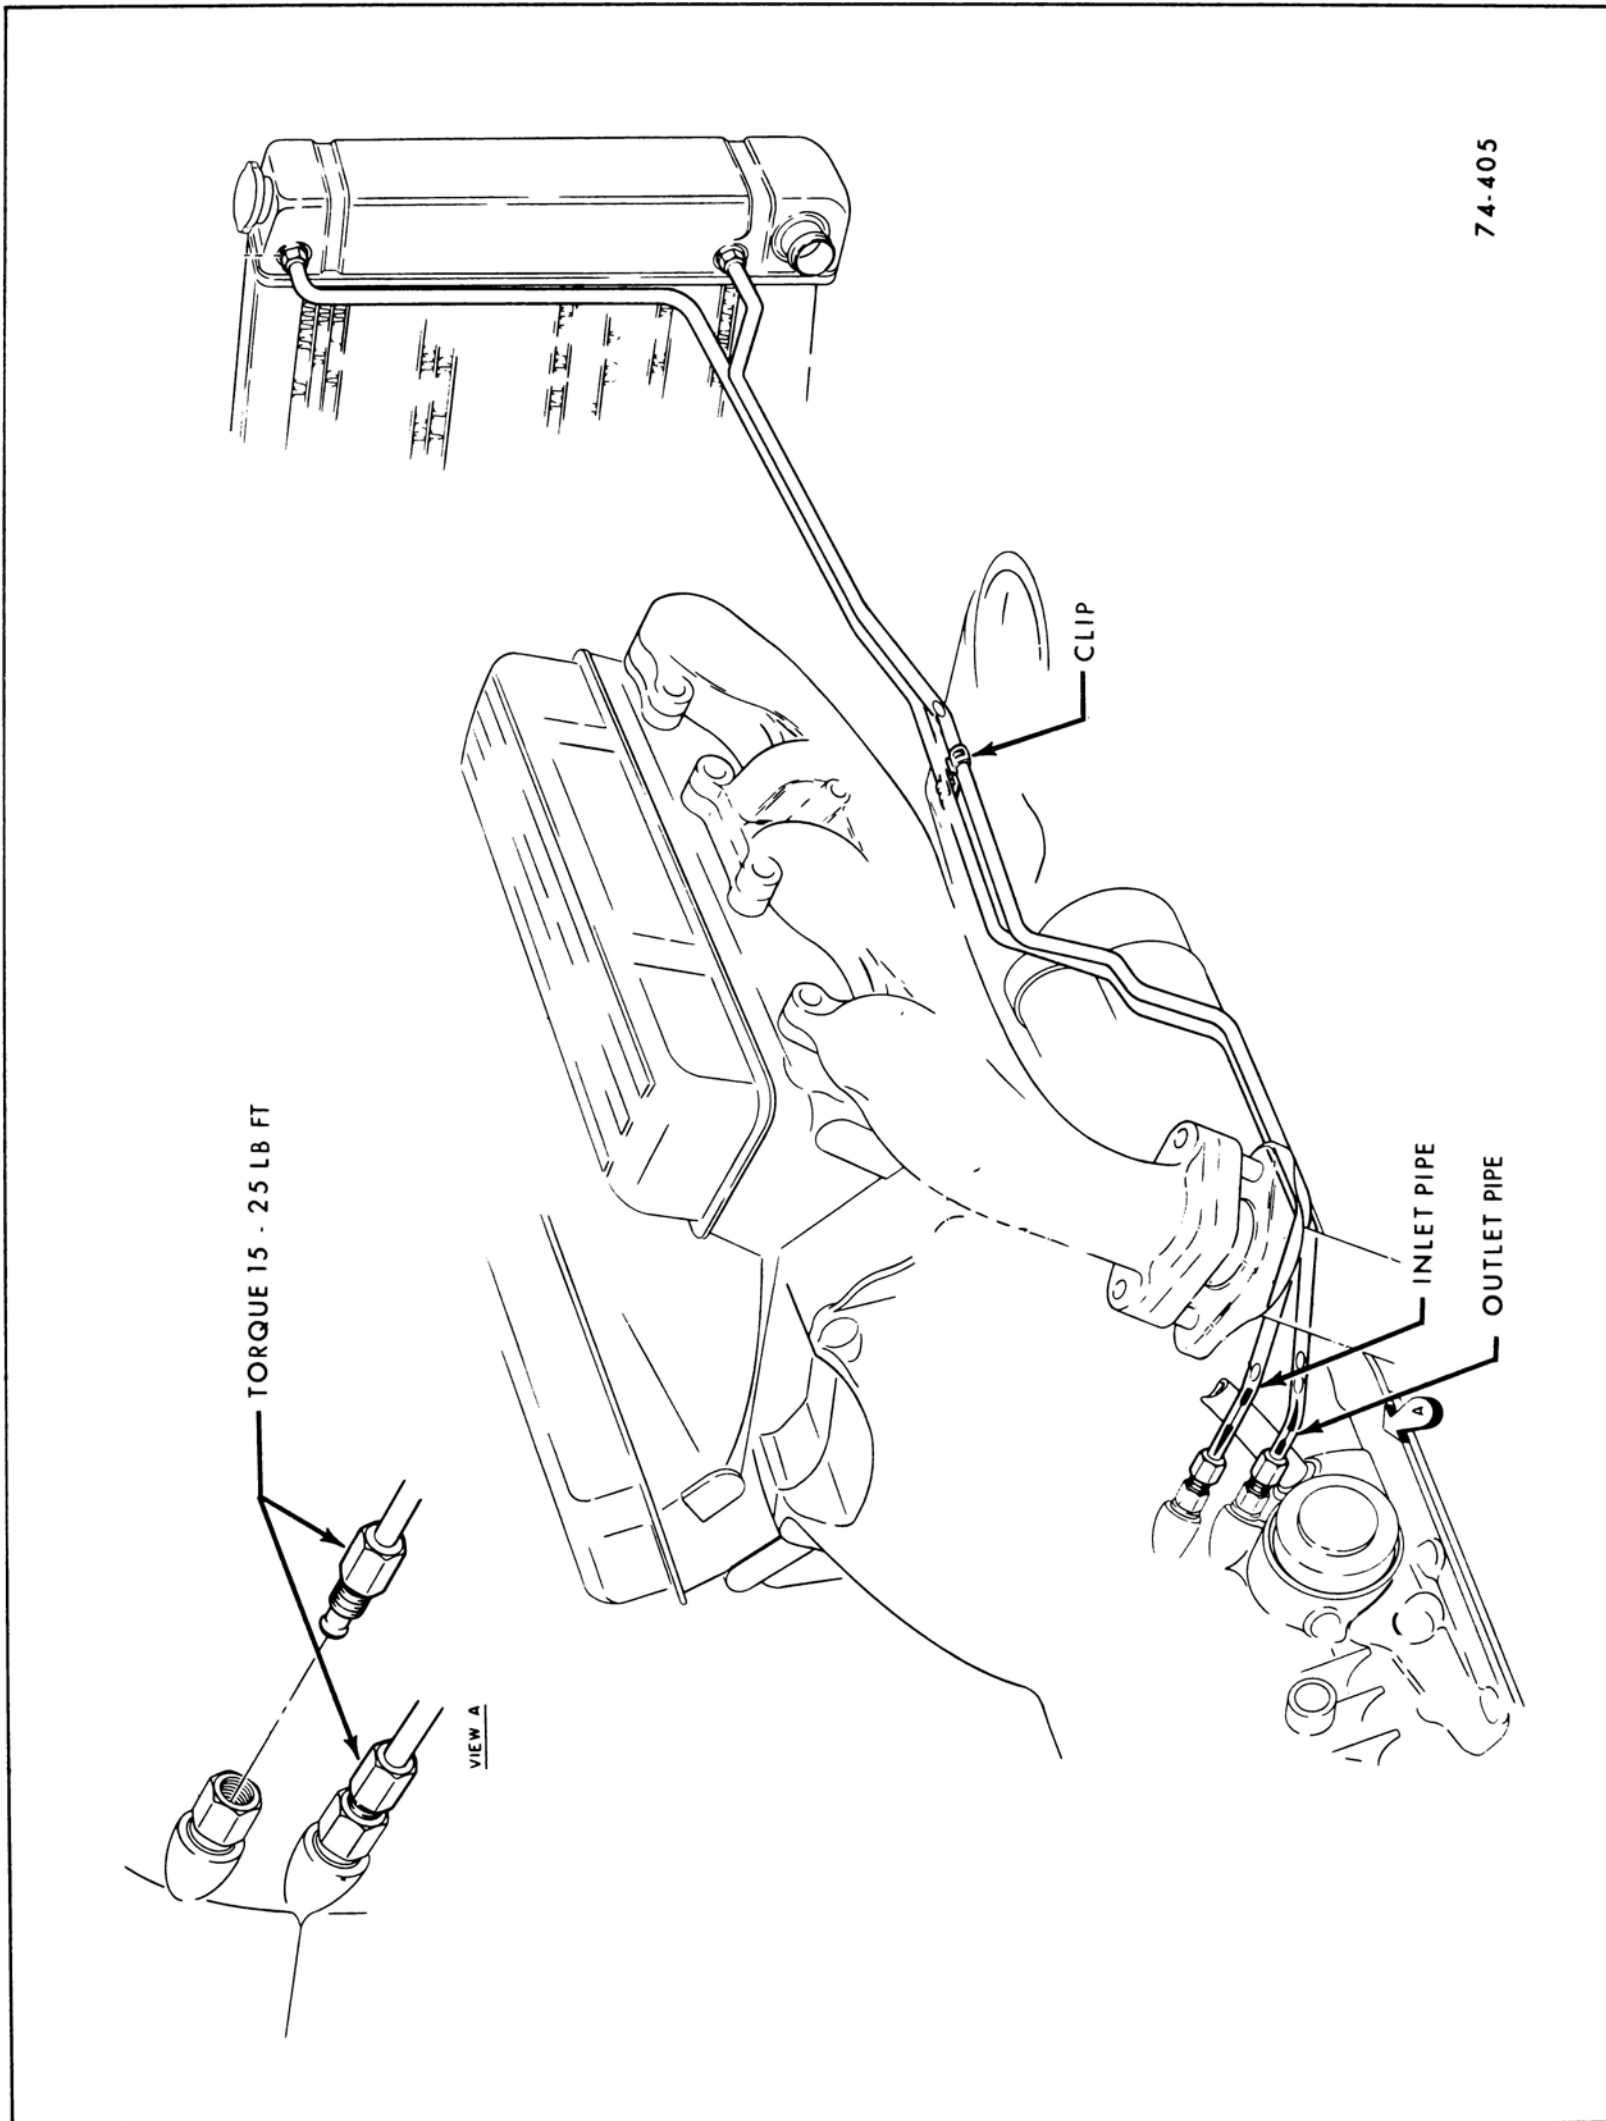

Figure 74-101—Oil Cooler Lines
6. Loosen cooler line nuts and separate cooler lines from transmission. See Figure 74-101.
11. Install oil cooler lines to transmission. See Figure 74-101.